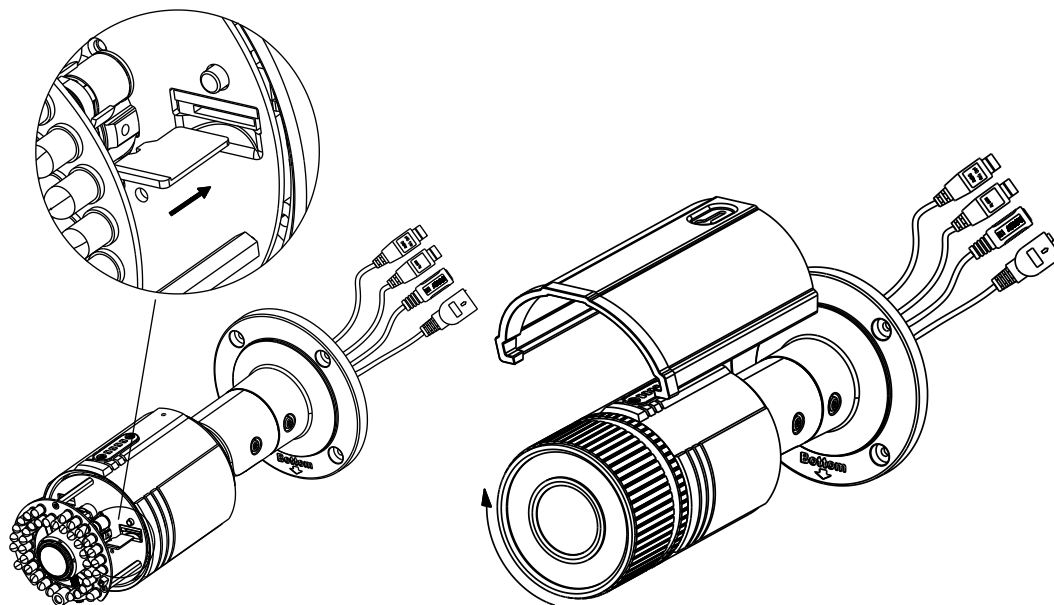

Figure 4-26 Install the SD Card
5. Rotate the front cover clockwise to install the sun shield according to the arrow direction as shown in Figure 4-26(right).